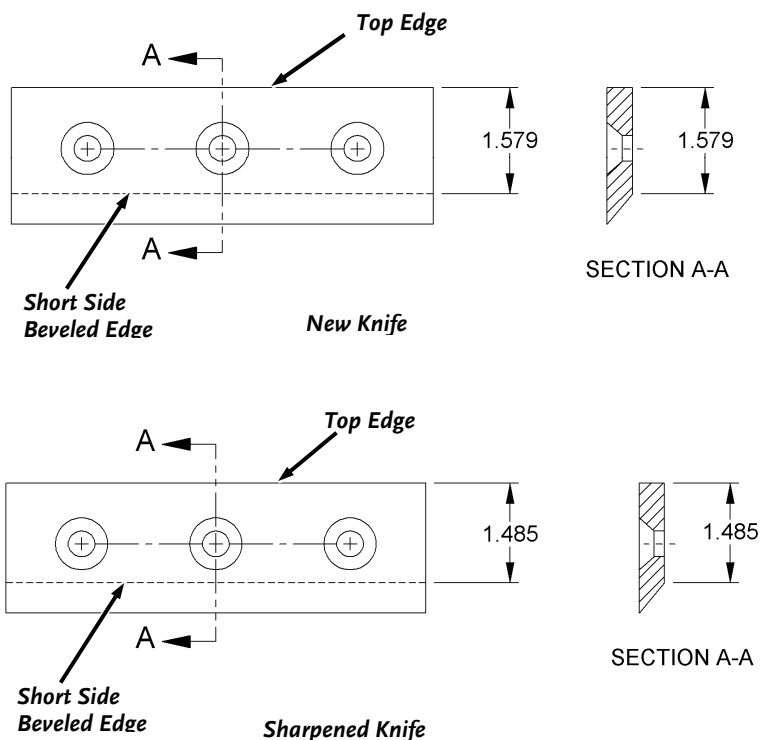

Figure 58
- A new Chipper Knife has 1.579" measurement between the short side bevel edge and the Knife Top Edge (**Figure 58 "New Knife"**).
- Once this measurement is below 1.485" (**Figure 58 "Sharpened Knife"**), or if you are unable to remove dents or gouges with these guidelines, replace the Knife.